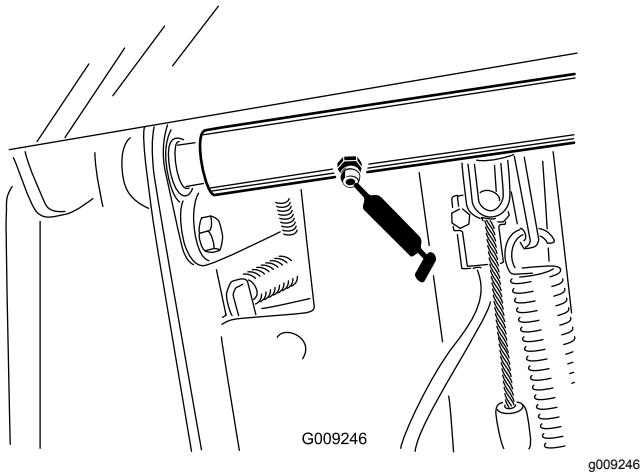

Figure 61
- 2 brake pedal pivot-shaft bearings (Figure 61)